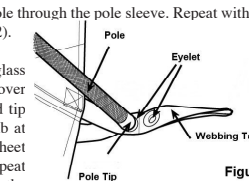

Figure 2A
11. With the remaining fibreglass poles, insert one end tip into the eyelet in the webbing tab at the base of and nearest to the flysheet (the other is for the peg) and repeat with the other end, by grasping the webbing tab firmly and pushing the pole through the sleeve (see figure 2A). To achieve this the pole sleeves must be eased over the poles, especially over the metal joints or ferrules. Peg down these parts as before.